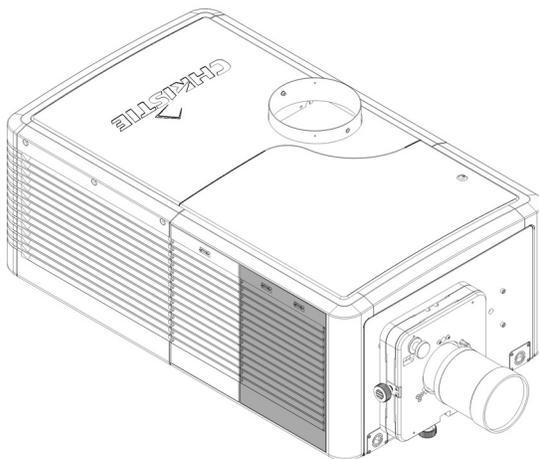

FIGURE 1-11 REPLACING AN AIR FILTER
2. Lift the cover and remove. (Figure 1-11)